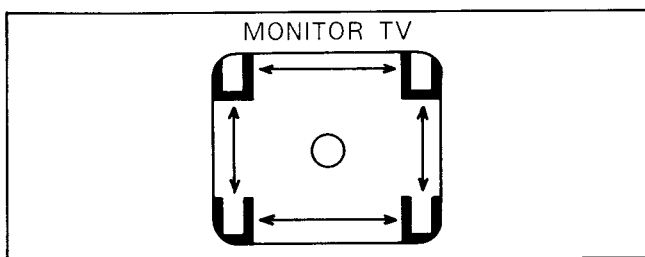

Fig. C11
- (2) Set the High Speed Shutter SW to "OFF" portion.
- (3) Blind the lighting using frosted glass or acryl plate to diffuse incoming light. And also put a corrugated cardboard which inside is cut to "U" shape as shown in Fig. C11.
- (4) Connect the jumper wire between TP516 and TP520 to open the Iris.
- (5) Adjust VR201 so that blooming is just disappear. (If blooming is not disappeared completely, adjust until minimum blooming)
- (6) High Speed Shutter "ON" and "OFF" both mode, confirm that the monitored picture does not contain the Blooming even if the camera moves as shown in Fig. C11.